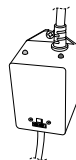

Figure 8
- Once power is activated you can check the ballast (12), Figure 8, to see if the CLEARRAY System is functioning. A solid green light indicates that the CLEARRAY System is being provided power and should always be on. A solid red light indicates that UV bulb is activated.